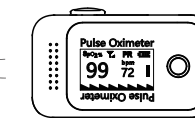

Figure 6
- The device takes only a moment to take the reading. The SpO2 value and PR value will be displayed on the OLED screen after the plethysmograph wave and measured values are stable, as shown in **Figure 6**.